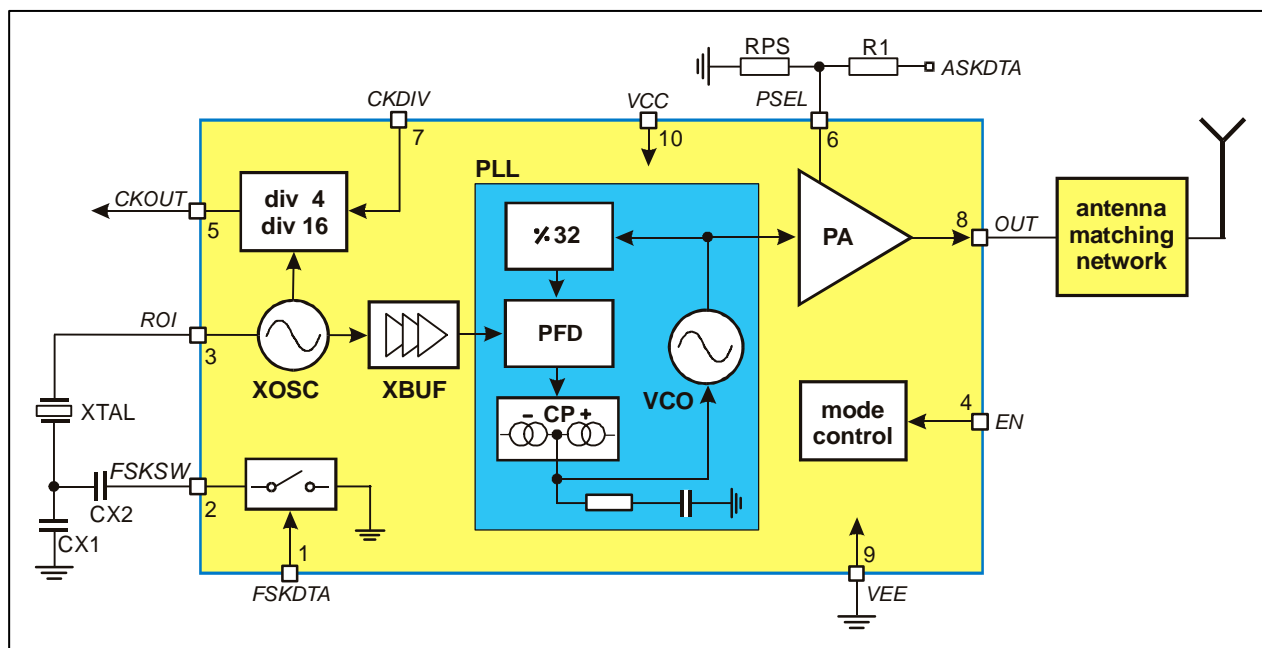

Fig. 1: Block diagram with external components
As depicted in Fig.1, the TH72016 transmitter consists of a fully integrated voltage-controlled oscillator (VCO), a divide-by-32 divider (div32), a phase-frequency detector (PFD) and a charge pump (CP). An internal loop filter determines the dynamic behavior of the PLL and suppresses reference spurious signals. A Colpitts crystal oscillator (XOSC) is used as the reference oscillator of a phase-locked loop (PLL) synthesizer. The VCO's output signal feeds the power amplifier (PA). The RF signal power  $P_{out}$  can be adjusted in four steps from  $P_{out} = -12$  dBm to +10 dBm, either by changing the value of resistor RPS or by varying the voltage  $V_{PS}$  at pin PSEL. The open-collector output (OUT) can be used either to directly drive a loop antenna or to be matched to a 50Ohm load. Bandgap biasing ensures stable operation of the IC at a power supply range of 1.95 V to 5.5 V.